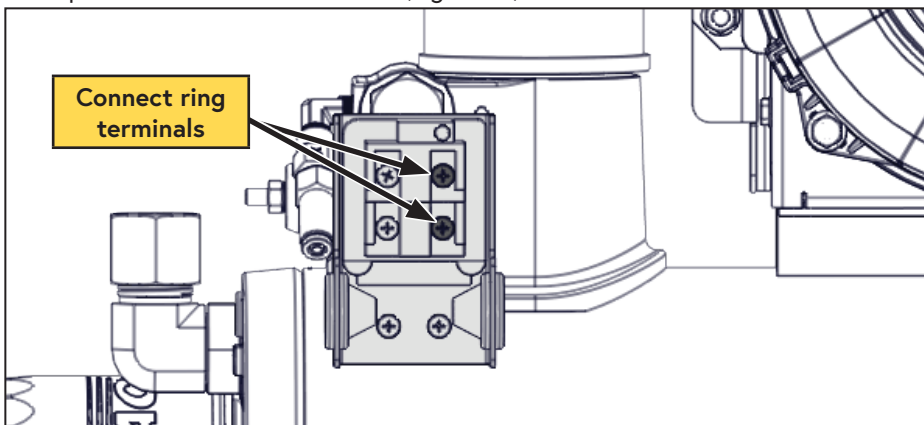

Figure 36 — Connect pressure switch
- Replace the cover when finished (Figure 36).